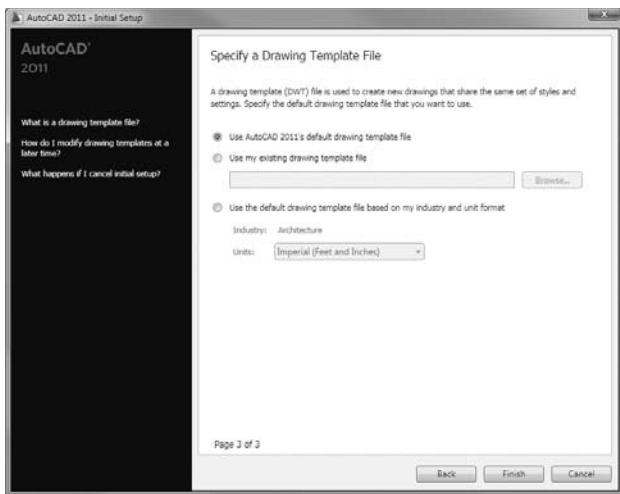

FIGURE 16.4 Setting the default drawing template file in the third Initial Setup window
4. In the third window, make sure Use AutoCAD 2011's Default Drawing Template File is selected and then click Start AutoCAD 2011 (see Figure 16.4).